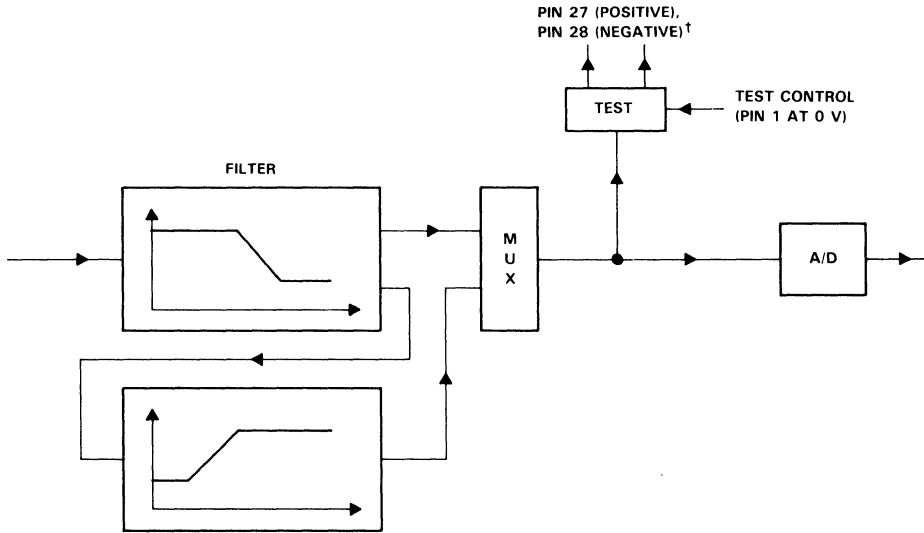

FIGURE 1. BANDPASS OR LOW-PASS FILTER TEST FOR RECEIVER SECTION
In normal operation, the nonusable (NU) pins are left unconnected. These NU pins are used by the factory to speed up testing of the TLC32044 Analog Interface Circuit (AIC). When the device is used in normal (non-test-mode) operation, the NU pin (pin 1) has an internal pull-down to  $-5$  V. Externally connecting 0 V or 5 V to pin 1 puts the device in test-mode operation. Selecting one of the possible test modes is accomplished by placing a particular voltage on certain pins. A description of these modes is provided in Table 2 and Figures 1 and 2.